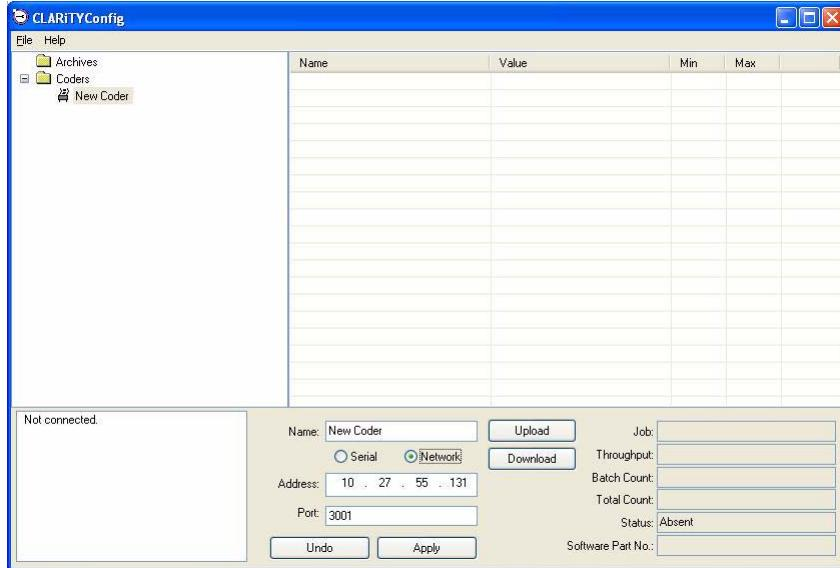

Figure 3-16: Printer Settings
- 9** Click the New printer icon and change the method of connection to Network. Enter the correct IP address and Port number to match the values downloaded into the printer (Figure 3-16).